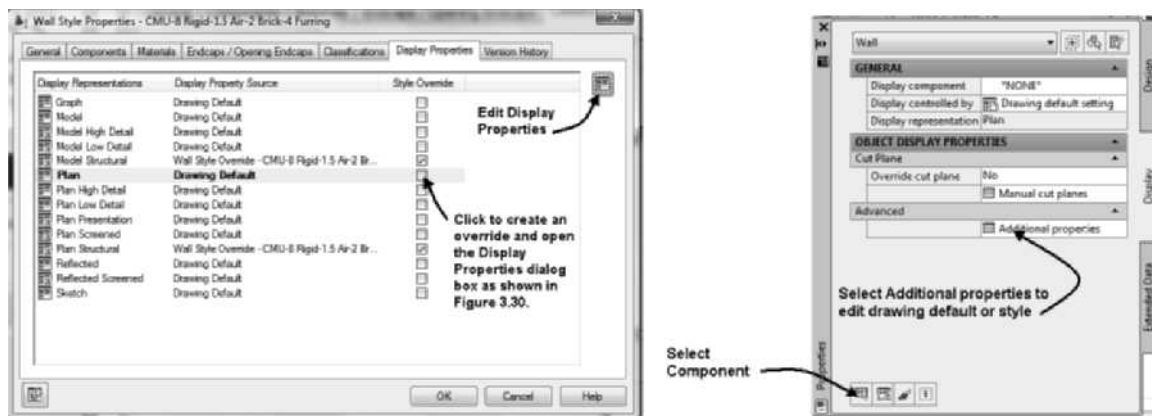
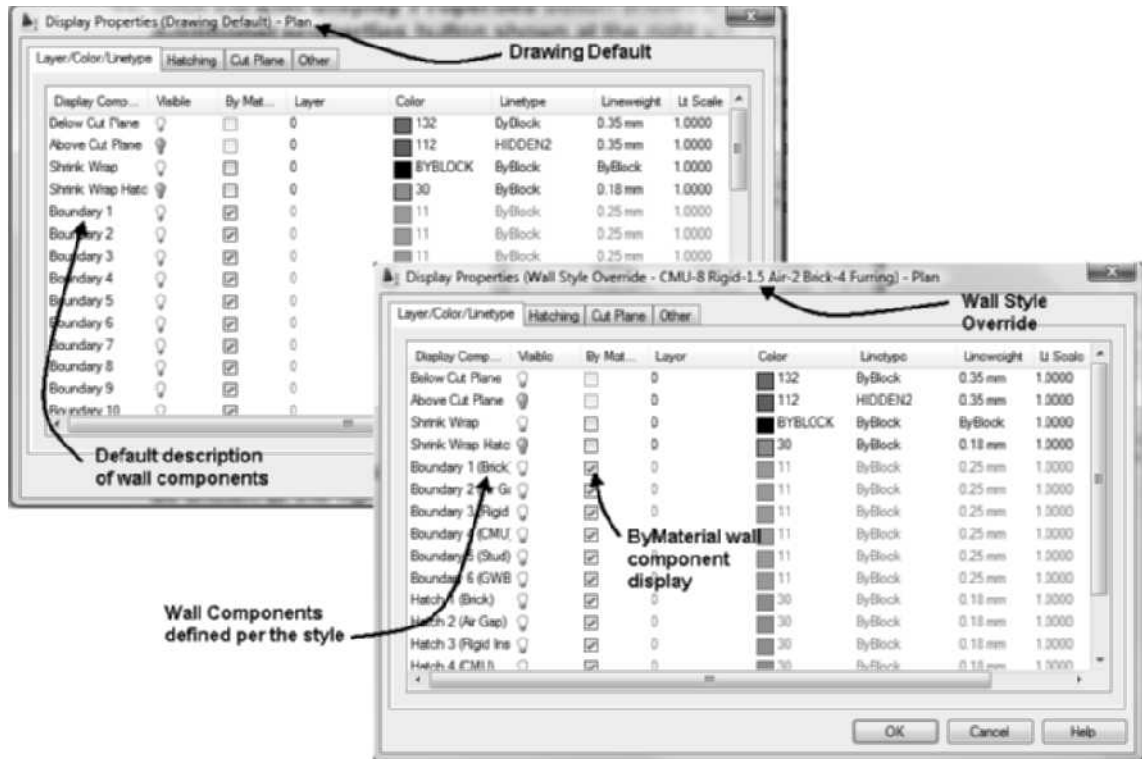

FIGURE 3.27 Display Properties tab of the Wall Style Properties dialog box
FIGURE 3.28 Editing Display Properties
44. Choose the Display Properties tab as shown in Figure 3.27. The display method for the wall components can be specified for each of the display representations. The display representation that is current in the drawing is shown as bold.
45. Clicking the **Edit Display Properties** button shown in Figure 3.27 shown at the right allows you to access the Display Properties (Drawing Default) Plan dialog box shown in Figure 3.28. This dialog box includes four tabs that describe the default settings of a wall.
47. A display representation can be controlled by a **Style Override** or the **Drawing Default**. In this step, you will create a style override and view the settings of display defined by the wall style. Check the **Style Override** checkbox, and the **Display Properties** (Wall Style Override-CMU-8 Rigid-1.5 Air-2 Brick-4 Furring [CMU-190 Rigid-038 Air-050 Brick-090 Furring]) dialog box opens as shown at the right in Figure 3.28. A **Layer/Color/Linetype** tab of a Style Override defines visibility, color, and linetype for each of the wall components defined by the wall style. Notice that the Display Components are listed by boundary number with the specific component name.
48. The Boundary display components consist of the entities that represent the width of the wall components. In Figure 3.28, Boundary 1 (Brick) and Boundary 2 (Air Gap) are the wall components created as Index 1 and Index 2 on the Components tab. You can turn the display of each component off by turning off the visibility of the component.
50. The Below Cut Plane display component shown in Figure 3.28 consists of the representation of the wall located at an elevation below the cutting plane. The default cutting plane elevation is 3'-6" [1060] for the Medium Detail display configuration defined in the Display Manager. You can alter the global height of the cutting plane by editing the Display Manager. The cut plane height can be defined in the wall style independent of the Display Manager if you override the cutting plane height in the
51. The Above Cut Plane components consist of the component representation at an elevation above the cutting plane. In the dialog box shown in Figure 3.28, the visibility of the Above Cut Plane display component is turned off.